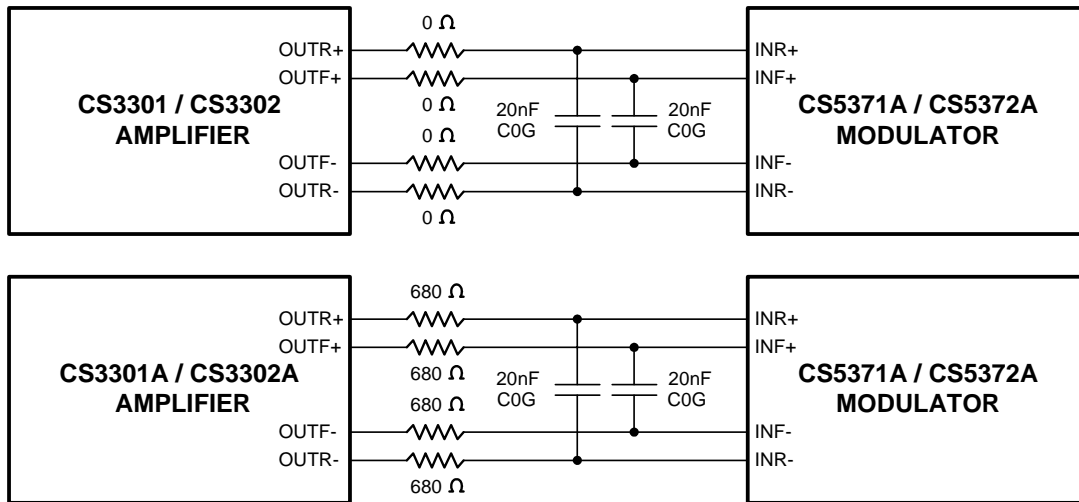

Figure 1. Anti-alias Filter Components
8. Anti-alias capacitors are discrete external components and must be of good quality (C0G, NPO, poly). Poor quality capacitors will degrade total harmonic distortion (THD) performance. See Figure 1 on page 6